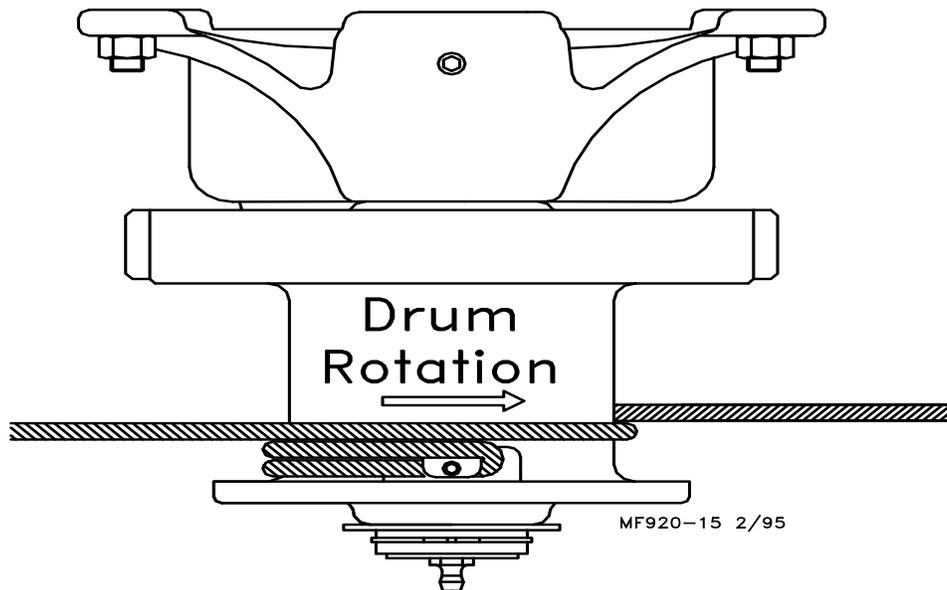

Figure 24. Cable Installation (End View)
11. Turn the winch drum one full revolution. Guide the cable against the flange at the bottom of the winch drum. The cable must not wrap over itself on the drum, but should be wrapped as close as possible to each previous wrap. See **Figure 24**.